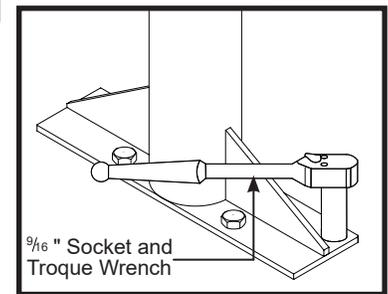

Fig. 14
6. Once the OV has been anchored, use a torque wrench and 9/16" socket to tighten the anchor bolts to 40 ft-lbs. (Figure 14).